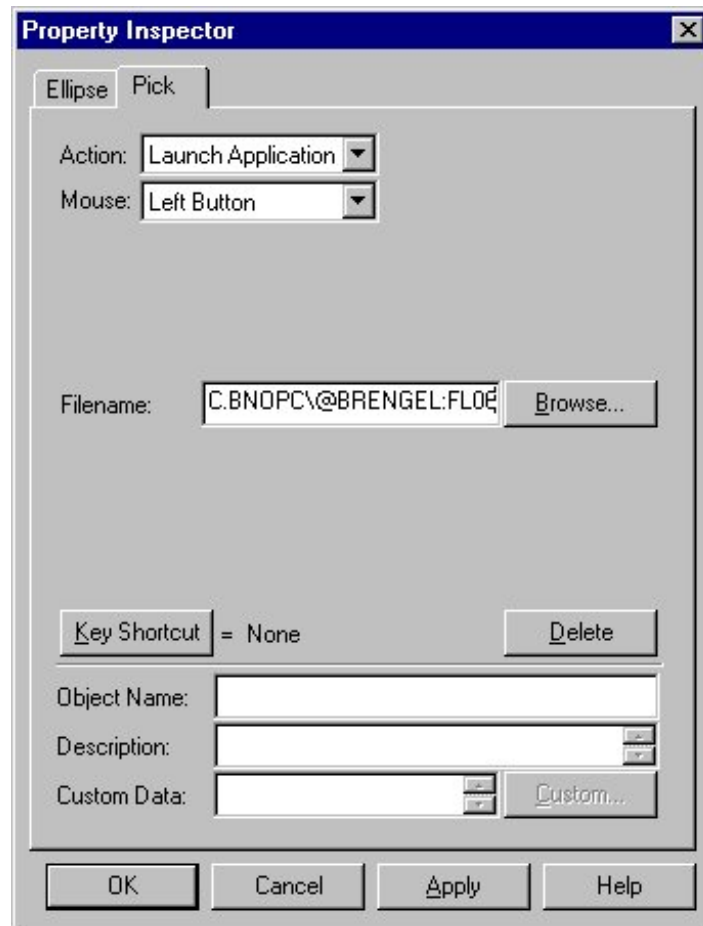

Figure 5-2: Completed Property Inspector Dialog Box
6. After the executable name in the Filename field, insert a space and type in the complete hierarchical path of an object (Figure 5-2).